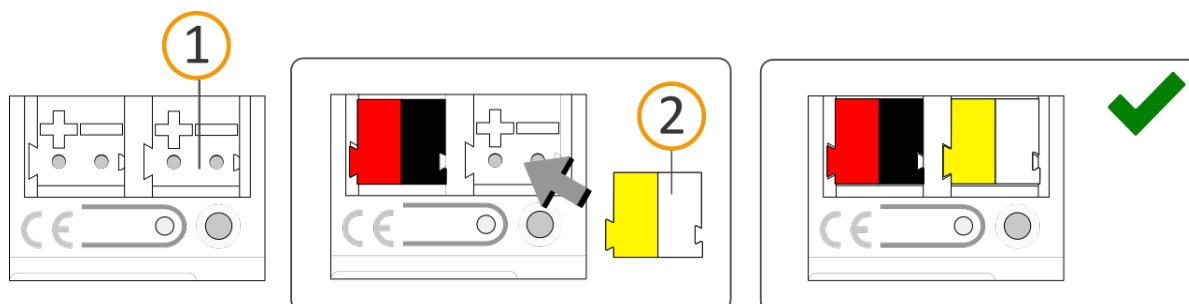

Figure 9: Connect the power supply
3. Connect the external power supply to the power supply terminal (see figure 9 item 1) by means of the supplied power connection terminal (see figure 9 item 2). Polarity: left/yellow: "+", right/white: "-".
- a. Attach the power connection terminal (see figure 9, item 2).